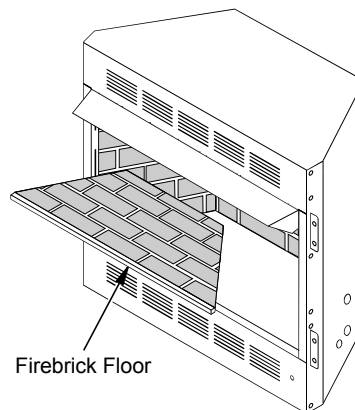
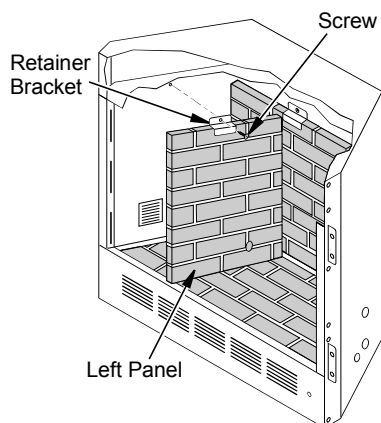

Figure 5 - Removing Firebrick Floor from Firebox
Figure 6 - Removing Left Panel from Firebox
1. If firebrick is installed, carefully lift and remove the concrete firebrick floor from the firebox (see Figure 5). Some model fireboxes require that you remove the side and rear panels first. Follow the directions below to remove the side and rear firebrick panels for those fireboxes.
- a. Using a Phillips screwdriver, remove the screw and retainer bracket at the top of the brick liner panel on the left side. Carefully remove the left panel from the firebox (see Figure 6).
- d. Carefully lift and remove the concrete firebrick floor from the firebox if installed (see Figure 5, page 3).
15. If previously removed, carefully replace the firebrick side panels and/or floor in the firebox (see Figure 5, page 3 and Figures 6 and 7, page 4).